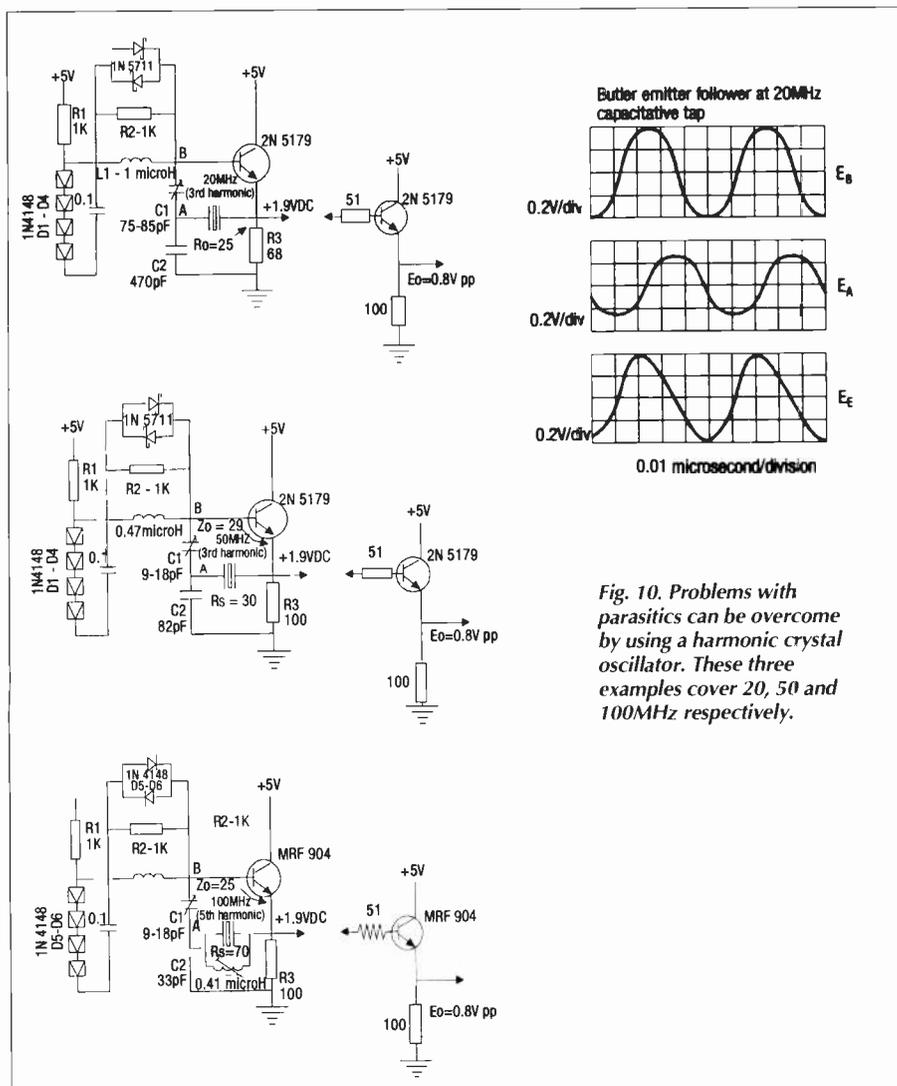

Fig. 10. Problems with parasitics can be overcome by using a harmonic crystal oscillator. These three examples cover 20, 50 and 100MHz respectively.
**20-200MHz.** Parasitics can be eliminated by using an oscillator relying on the crystal's harmonics. Figure 10 a) is such an example for operation at around 20MHz. In it, the crystal is tapped into the capacitive side of the LC tank.
Four signal diodes provide base biasing. Emitter output driving the crystal is 25 $\Omega$  while the crystal load is around 35 $\Omega$ . Figures 10 b,c) show values needed to make the same circuit operate at 50 and 100MHz respectively.